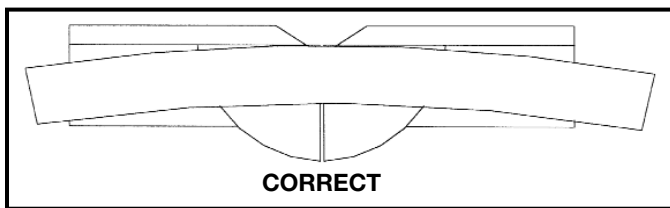

Fig. 41
1. Check the workpiece. If it is bowed, position the workpiece on the table as shown in Fig. 41.